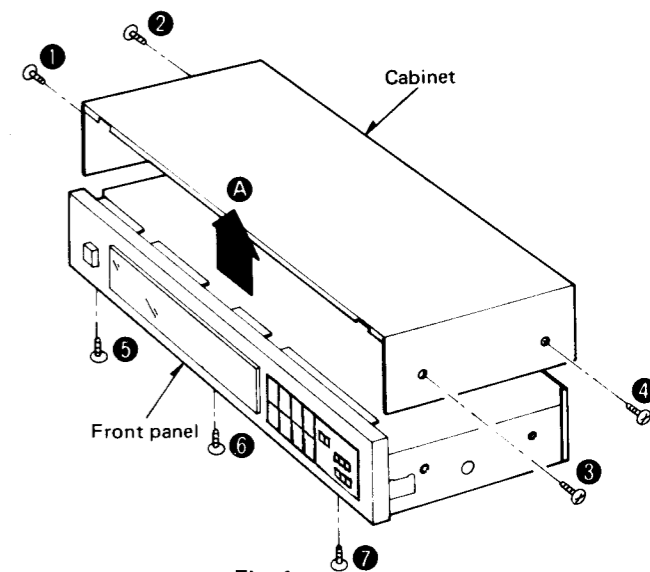
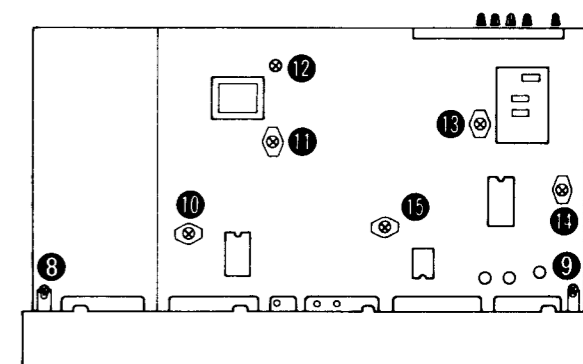
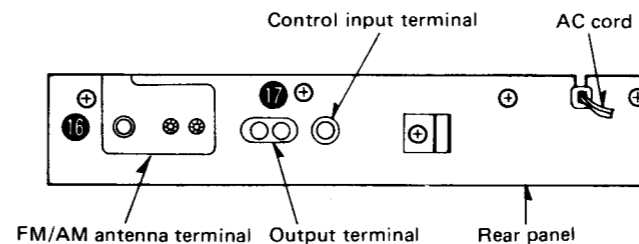

Fig. 1
Fig. 2
Fig. 3
- Move the Fig. 1.
- Remove the Fig. 2) of in Fig. 2 a rear panel.
- Pressing the panel in the front panel arrow (C) (Raise the
1. Remove the 4 setscrews (1 ~ 4 in Fig. 1) of the cabinet.
2. Move the cabinet in the direction of the arrow A in Fig. 1.
3. Remove the 5 setscrews (5 ~ 7 in Fig. 1 and 8, 9 in Fig. 2) of the front panel and the 8 setscrews (10 ~ 15) in Fig. 2 and 16, 17 in Fig. 3) of the bottom board or rear panel.